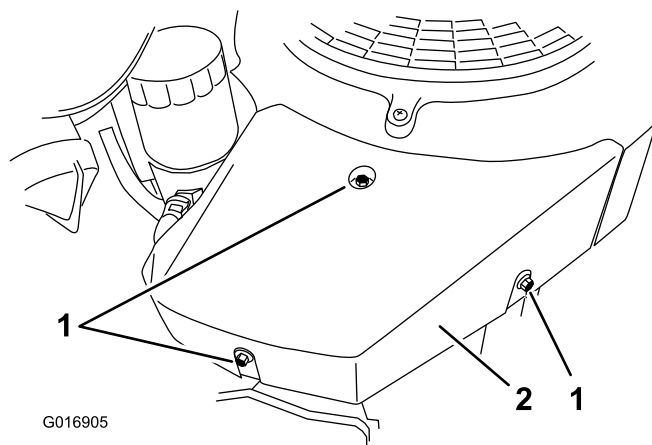

Figure 73
3. Remove the right hand shroud by removing the top mounting screw and loosen the two side screws (Figure 73).
4. Remove the top mounting screw and loosen the two side screws on the left hand shroud (Figure 73).